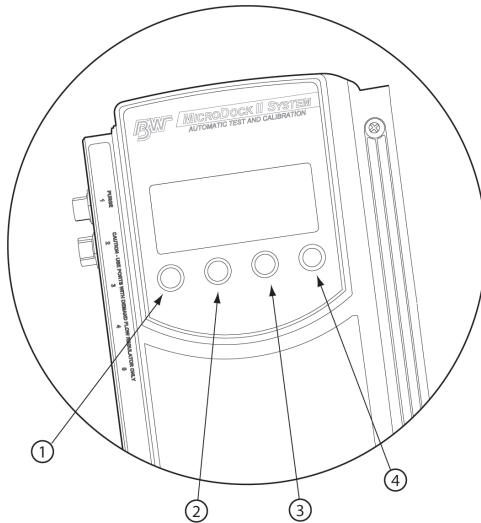

Figure 3. Station Pushbuttons
- Figure 3 and Table 5 Station Pushbuttons